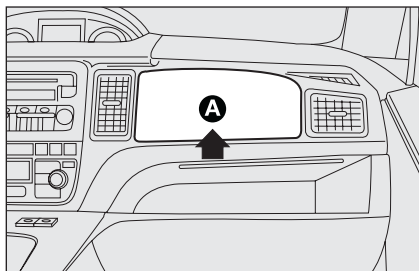

fig. 18
## PASSENGER'S FRONT AIR BAG fig. 18
*Do not apply stickers or other objects on the steering wheel in zone A-fig. 18, passenger side airbag cover or side upholstery on roof. Do not place objects on the passenger side dashboard because these could interfere with the correct opening of the airbag (e.g. mobile phones) and cause severe injury to occupants.*